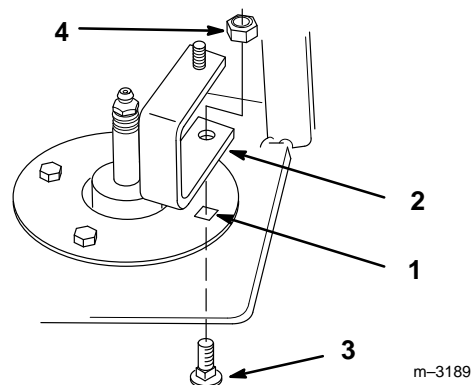

Figure 6
12. Remove outside spindle mounting bolt, file hole square and re-install carriage bolt from the bottom (Fig. 6).
13. Install belt guard bracket onto carriage bolt and secure with locknut (Fig. 6).